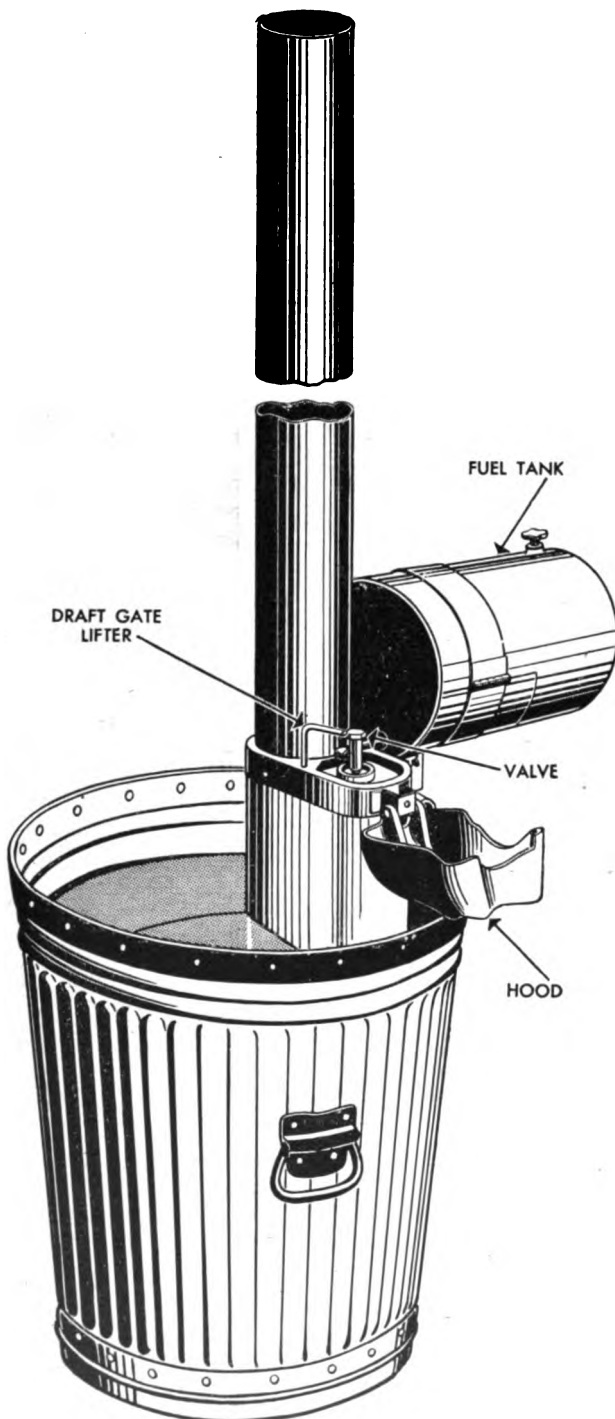

Figure 53. Heater, immersion type (65-J-1911-70).
a. The heater, immersion, type, for cans, corrugated, complete with 24-gallon can and cover (stock No. 65-J-1911-70) is a new type of water heater, employing the principle of the downdraft burner. (Heater only, stock No. 65-J-1911-50.) (See figs. 53 and 54.) (See par. 19a.) By means of a large baffle plate, the heat is made to circulate over the entire bottom of the can.